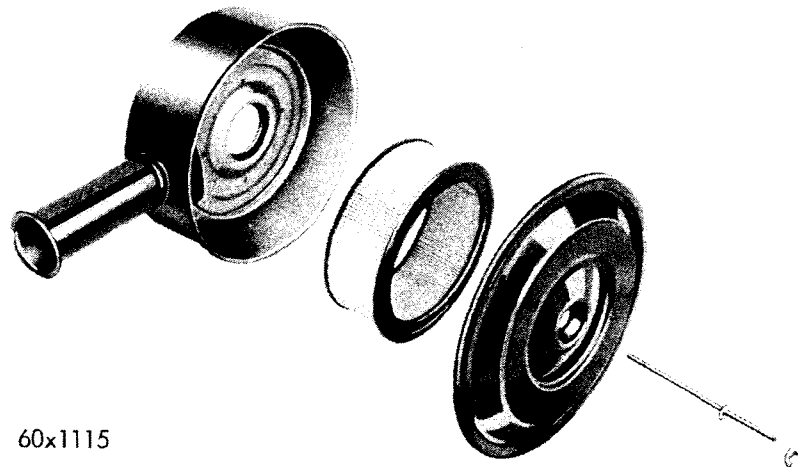

Fig. 46—Dry Type Carburetor Air Cleaner (Typical)
To clean the paper element, the following procedure should be used: Remove cleaner assembly, remove paper element, blow out dirt gently with an air hose. Direct air from inside out, and keep nozzle two (2) inches away from element to avoid damaging. Do not tap or immerse element in liquid. Wash the cleaner cover and body with cleaning solvent, such as kerosene and wipe dry (Fig. 46). Replace paper element, center and secure firmly. Replace cleaner assembly on engine. Replace paper element every 500 hours.